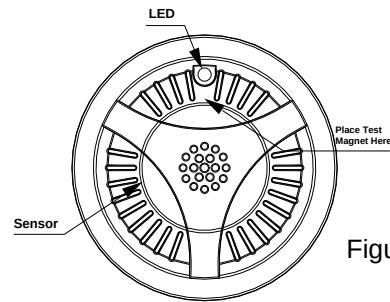

Figure 5.
- (1) Use a vacuum cleaner to clean the dust around the vent holes of gas detector cover.
- (2) Carry out a regular or weekly test of gas detectors. This test should only be carried out if the LED flashes every 5 seconds.
- (a) To test the detector, place a magnet as indicated in figure 5 on the front of the detector. The detector should sound and the LED will be a constant RED.